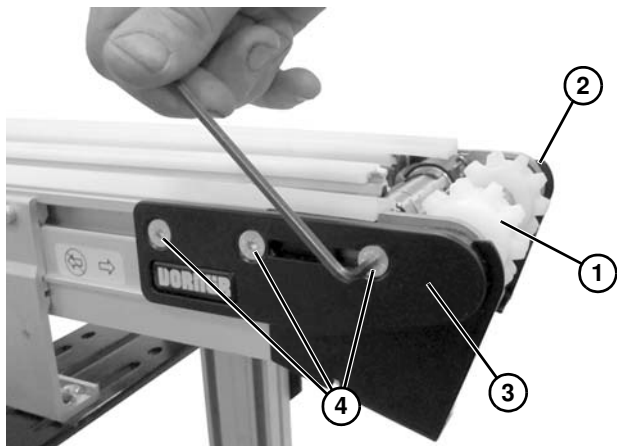

Figure 74
1. Install drive spindle (**Figure 74, item 1**) into head plate (**Figure 74, item 2**). Install head plate (**Figure 74, item 3**) and install screws (**Figure 74, item 4**).